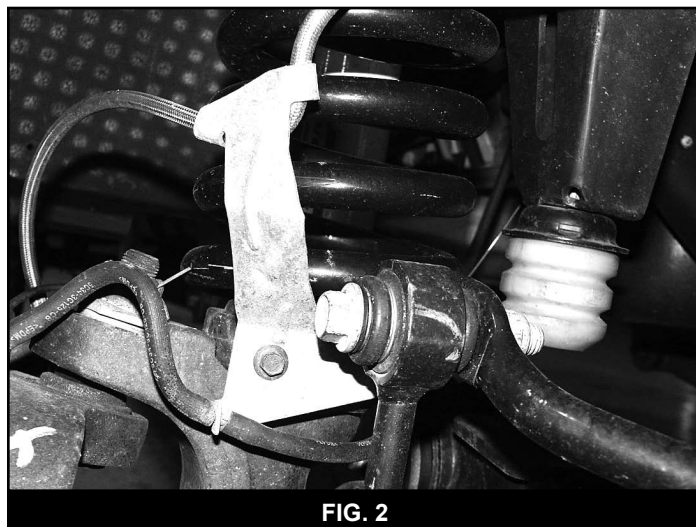

FIG. 2
5. Route brakeline through OE brakeline hanger. Attach to axle with OE hardware. (Figure 2)